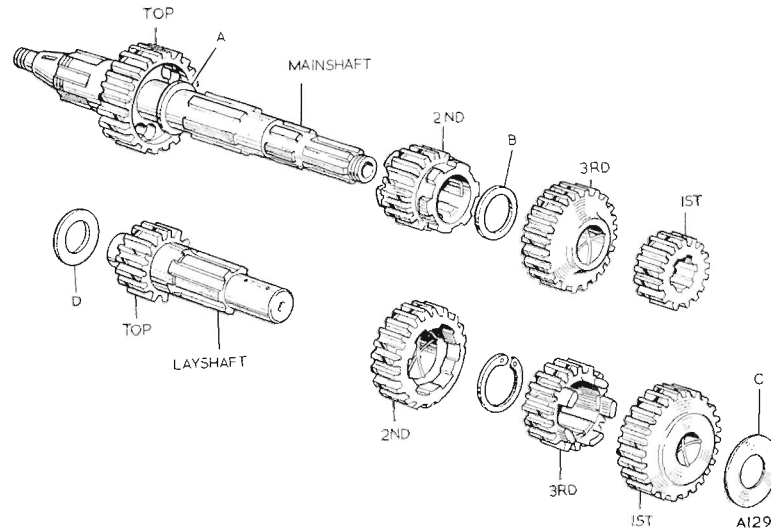

Fig. B35. Gear cluster exploded
Holding the cover face down, place the layshaft low gear with its shim (C) Fig. B35, and sliding gear (third) in position on the cover. Fit its selector fork, the roller being located in the lower cam plate track.
A thrust washer (D) is fitted to the driveside end of the layshaft when there should be just perceptible end float. The mainshaft, being locked to the inner cover, does not need checking for end float but excessive movement between the gears and the ends of the splines must be corrected by fitting the appropriate spacers. See Fig. B35 for position of each spacer, the thicknesses and part numbers of which are as follows:—